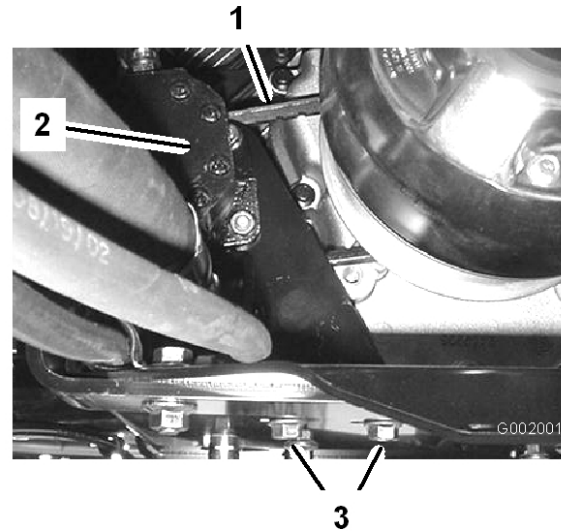

Figure 65
2. Loosen the steering pump mounting bolts (Figure 65).